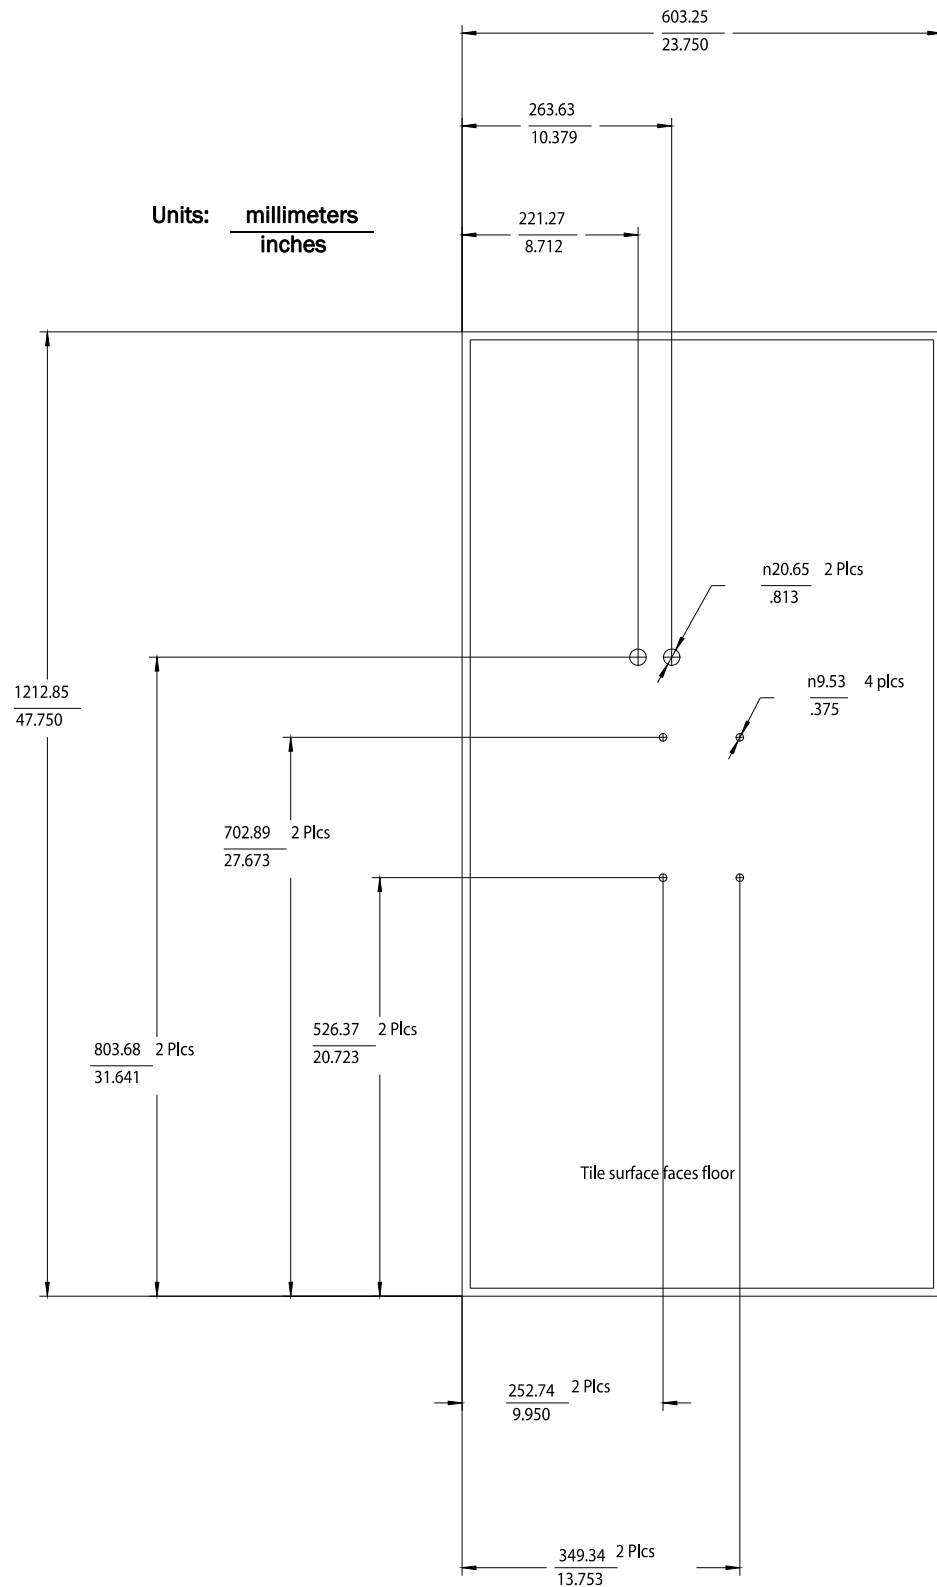

Figure 2-9: Core AP Below Ceiling Tile Hole Locations and Dimensions
3. Refer to Figure 2-9 for all dimensions and hole locations. Place the mounting rails across the tile (underside of tile). For ceiling tiles that are smaller than standard 2' x 4' size ceiling tile, the mounting rails can be cut down in length at the u-shaped cutouts.